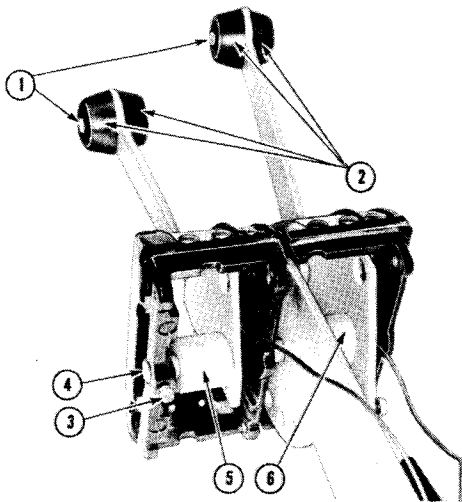

Figure 9-8
Remove cap screws and nuts (1, Fig. 9-8) separating handles (2) from control levers (5, 6). Loosen lock screws (3) and with the aid of a suitable punch, drive pivot pin (4) out of lever bracket disconnecting control levers (5, 6) from lever bracket.